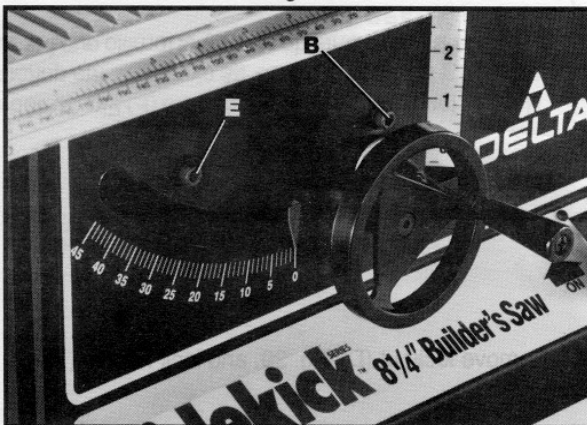
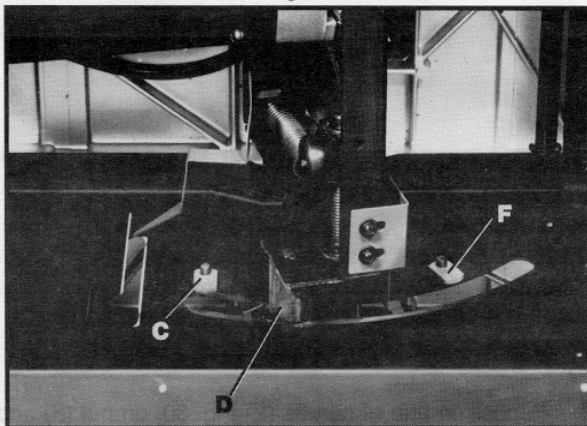

Fig. 32
Fig. 33
3. Loosen screw (B) Fig. 32.
4. Rotate stop (C) Fig. 33, until end of stop (C) contacts spacer (D) when the blade is at 90 degrees to the table. Then tighten screw (B) Fig. 32.
7. Loosen screw (E) Fig. 32.
8. Rotate stop (F) Fig. 33, until end of stop (F) contacts spacer (D) when the blade is at 45 degrees to the table. Then tighten screw (E) Fig. 32.